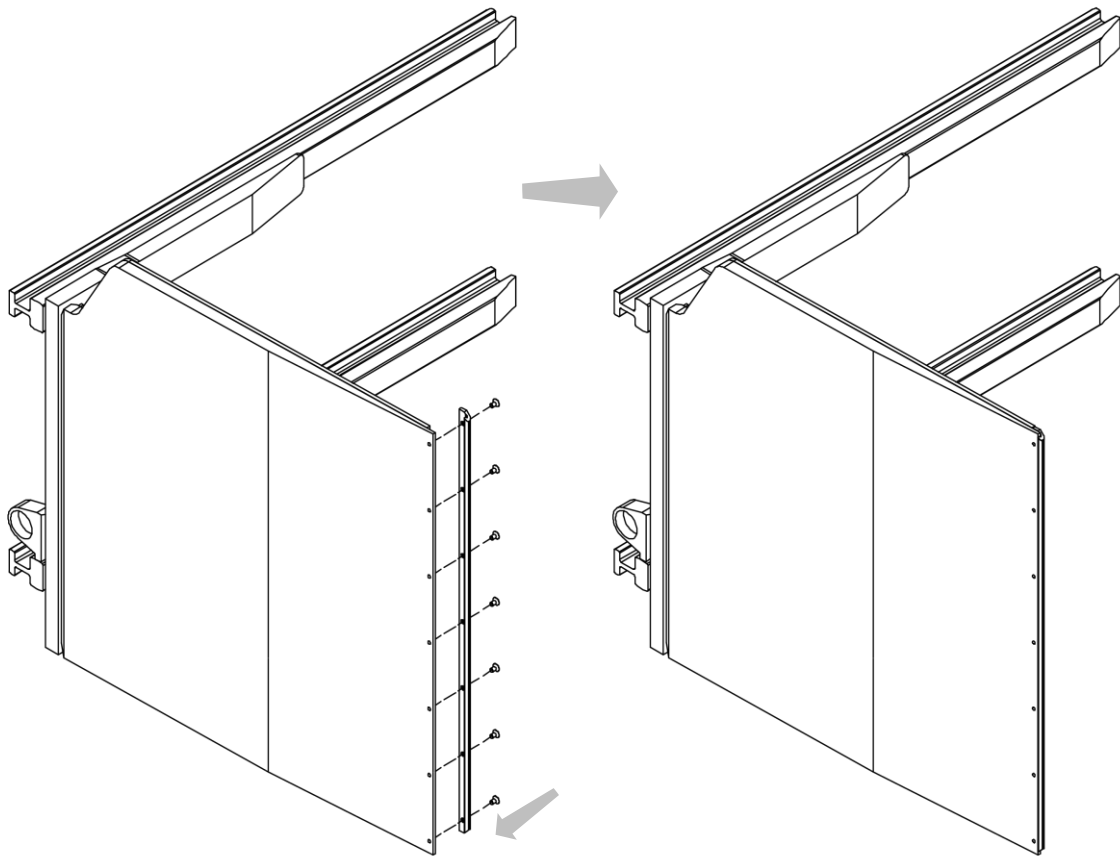

Figure 34
2. Fit the protective caps onto the jaws (see *Figure 34*).